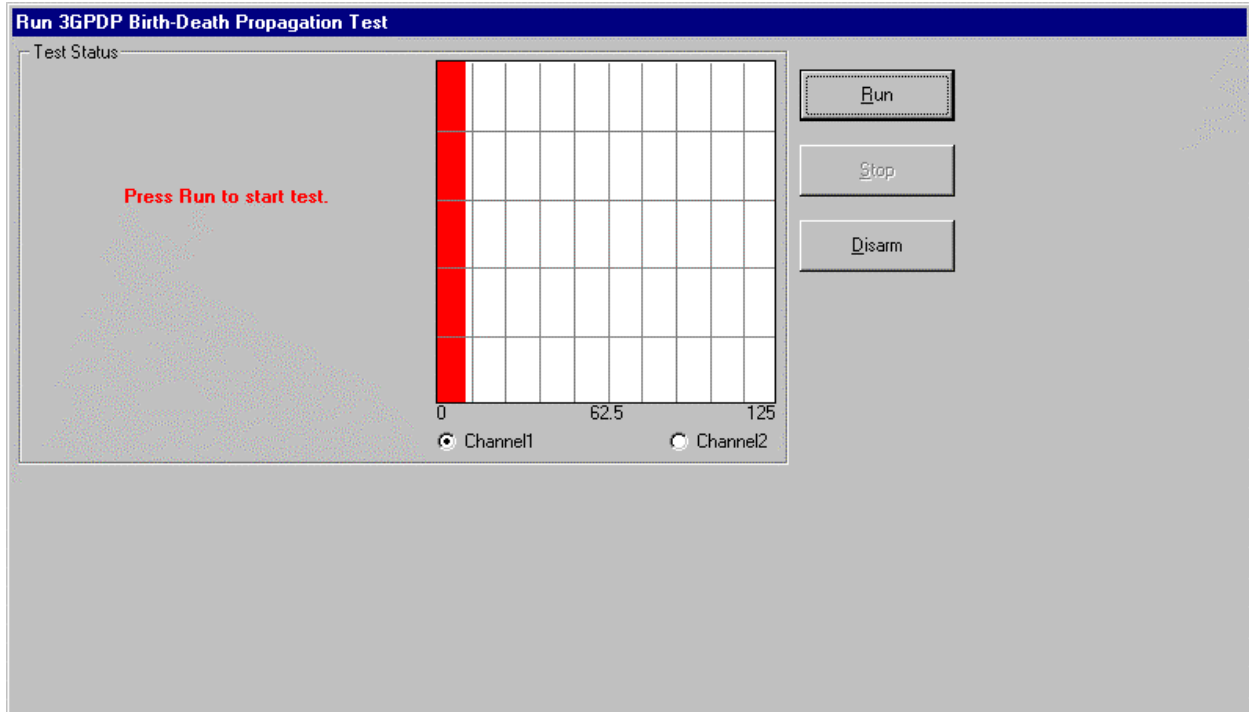

Figure 3-44. Run 3GPDP Birth-Death Propagation Test Screen
9. When the unit has been successfully **Armed**, the screen shown in Figure 3-44 will appear. Press the **Run** button to begin test execution or the **Disarm** button to return the unit to static operation.